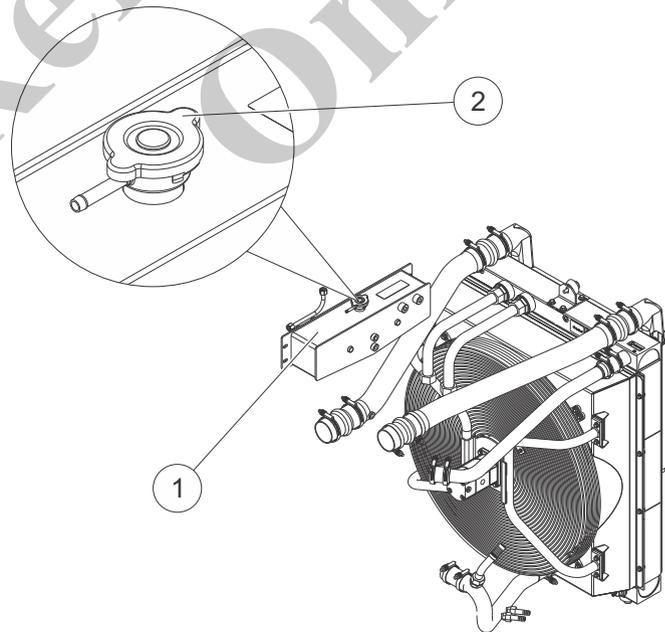

Fig. 203 Combination cooler
2	Carefully open the sealing cap (2) in Fig. 203 of the expansion tank (1) in Fig. 203 to equalize the pressure.